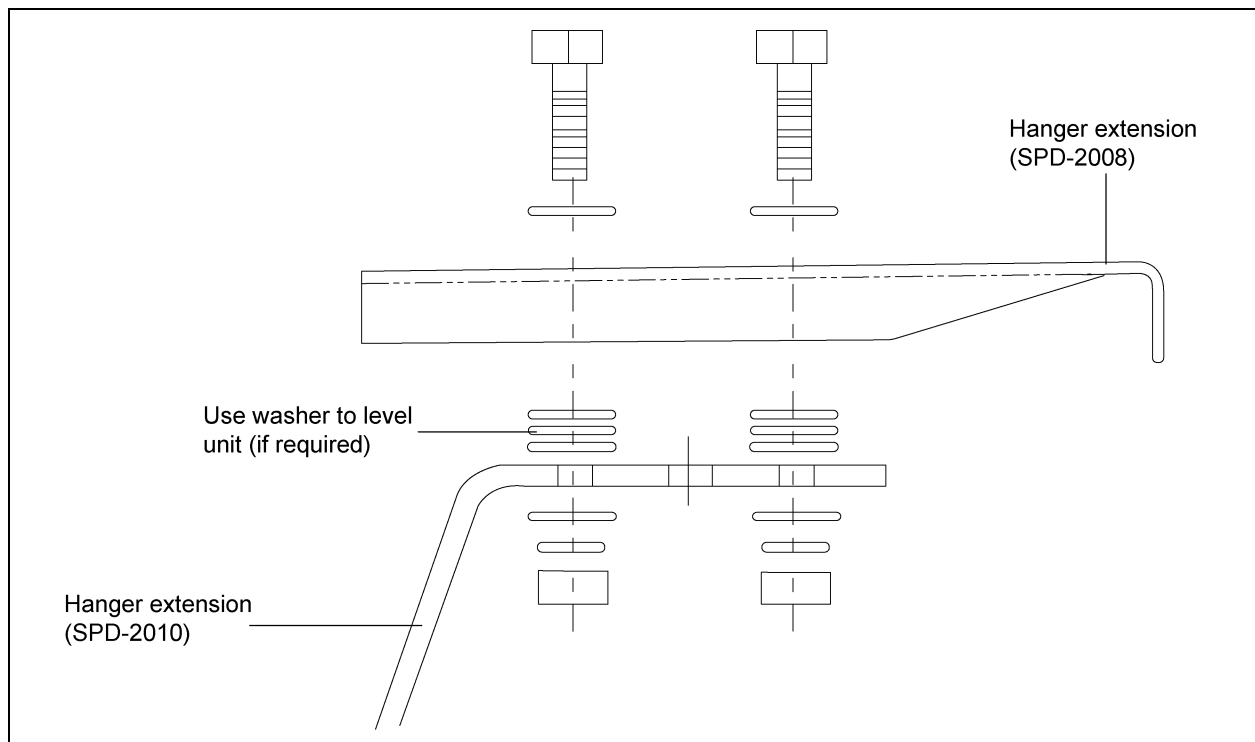

Figure 4B *Use Washers to Level Unit*
5. If the unit is not level, add spacer washers between hanger brackets and hanger extensions to level unit. *(See Figure 4B.)*